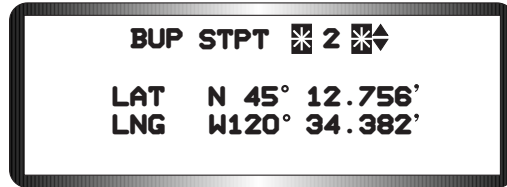

Figure 8-4 Back-Up Steerpoint DED Page
Air-to-Air Self Defense (AASD) is a level 1 capability only. It is sub-divided into two air-to-air states (Air-to-Air state 1 and Air-to-Air state 2) differentiated by the availability of the FCR and 20mm gun capabilities. The level 1 states are depicted by either the “MCL1 AA STA1” or “MCL1 AA STA2” PFL message shown in Figure 8-4. In level 1, Air-to-Air state 1, the ACM mode of the FCR and the AIM-9 Bore launch capabilities are available. Target symbology, aspect angle, target locator line, AIM-9 aiming reticle, shoot cues, DLZ, and break X are also available. SMS AIM-9 support functions such as weapon selection and status, AIM-9L/M missile cooling, spot/scan selection, threshold detect, and cage/uncage functions are provided. Hands-on controls are available but use of the 20mm gun is not available. Fault reporting and collection for those subsystems residing on the AMUX and DMUX is also provided.
- 3) MMC Level 3 Degraded Operations: Level 3 degraded operation, which is depicted by the “MMC FAIL” PFL message, provides the same E-J BLND capabilities found in degraded MMC levels 1 and 2. However, the MMC power switch must be placed in the “OFF” position in order to do E-J under level 3 conditions. No fault reporting and collection capabilities are supported in level 3. The GHN function found in level 2 is not supported in level 3, however, Backup (BUP) STPT (back-up steerpoint) DED page is displayed when the MMC fails (Figure 8-4). The steerpoint will default to “0” which corresponds to the position of the steerpoint that was selected when the MMC failed. Steerpoints 1-9, corresponding to the same steerpoints 1-9 prior to the MMC failure. The UFC can be used to change steerpoint data. Data that has been changed during back-up steerpoint operation will be lost if the MMC resumes normal operation.